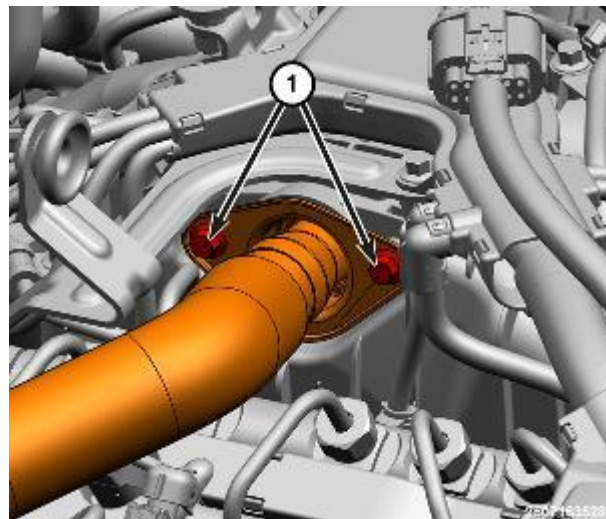

Figure 108 – Upper EGR Tube
25. Remove the upper Exhaust Gas Recirculation (EGR) tube bolts (1) (Figure 108).